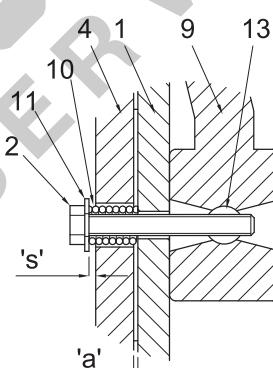

Figure 54 – Hoist Brake Hand Release
- Insert the compression springs (10) into the holes of the armature plate (1).
- Fit the washers (11) onto the hand release fixings (12) and assemble through the compression springs (10) and the stator (5).
- Fit the barrel nuts (13) into the holes provided in the hand release (9).
- Position the hand release (9) over the stator and tighten the hexagon screws (12) into the barrel nuts (13) until the armature plate moves towards the stator.
- Adjust the gap between the armature plate and the stator using the hexagon hand release screws (12) to achieve a dimension ('s' + 'a') (see Figure 54). Example 1.8mm (1.5+0.3) for brake size 3. Check the dimension at three positions around the circumference.
- Fit the complete brake assembly onto the hoist and tighten the assembly screws (7) to the value shown in the table (5.9.2).